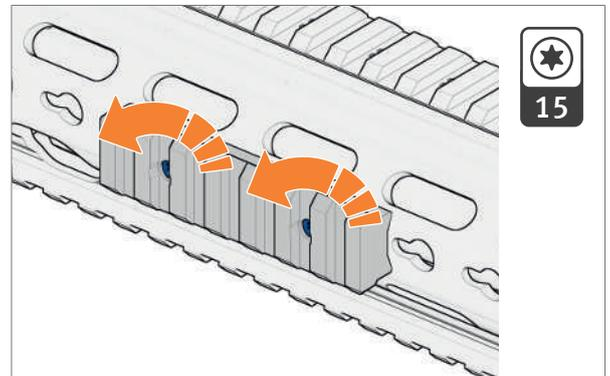

Fig. 46: Loosen screws for Picatinny rail
3. Loosen screws for Picatinny rail by turning anti-clockwise with torque wrench (*Fig. 46*).